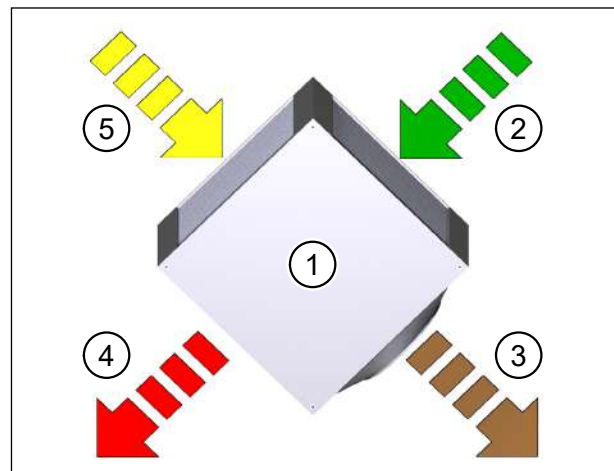

Fig. 10: How the cross-flow plate heat exchanger works
The warm extract air (item 5 in Fig. 10) drawn in from the interior is routed through the chambers of the cross-flow plate heat exchanger (item 1 in Fig. 10) and heats them.
The cooled extract air is carried to the outside as exhaust air (item 3 in Fig. 10).
At the same time, the cold outdoor air that is drawn in (item 2 in Fig. 10) is routed through the chambers of the cross-flow plate heat exchanger, which are separate from the extract air, and is heated. The separate chambers prevent the outdoor air and extract air from mixing.
The heated outdoor air is routed into the interior as supply air (item 4 in Fig. 10).